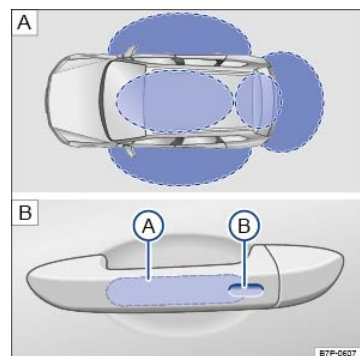

Fig. 53 Keyless Access system: System ranges. Unlocking and locking sensors on the outside door handle.
Key to ⇒ Fig. 53 :
- Grasp the door handle of the driver or front passenger door so that you touch the unlocking sensor surface → Fig. 53  .
- Touch the lock sensor surface in the door handle on the driver or front passenger door → Fig. 53  *one time*. The vehicle is locked. The door being locked must be closed.
If the vehicle is locked and a valid remote control vehicle key is within range → Fig. 53  of the trunk lid, it unlocks automatically when opened.
- Within 5 seconds, touch the lock sensor surface on the door handle on the driver or front passenger door → Fig. 53 .
To use the convenience closing feature to close all power windows and the power sunroof, hold your finger on the lock sensor surface on the outside of the door handle → Fig. 53  for a few seconds until the windows and the power sunroof close.